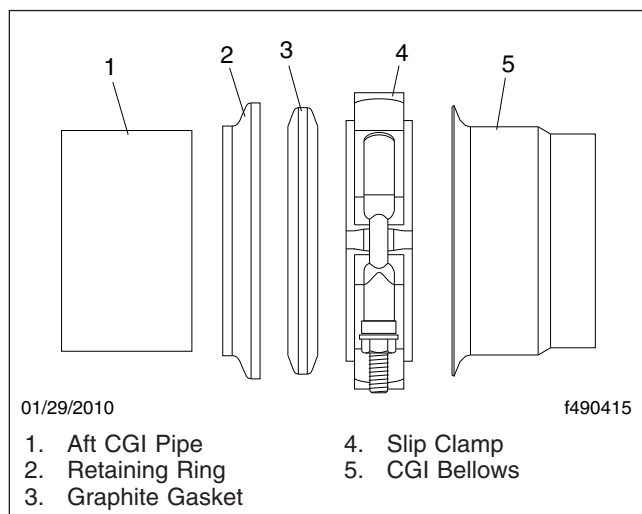

Fig. 10, Aft Facing Slip Clamp Installation
11. Slide the slip clamp, with the retaining ring and graphite gasket ring, on the aft CGI pipe. See **Fig. 10** for proper installation.